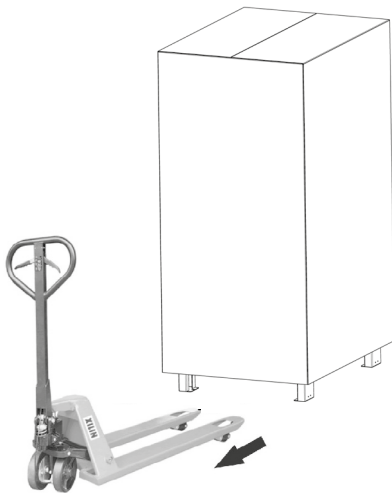
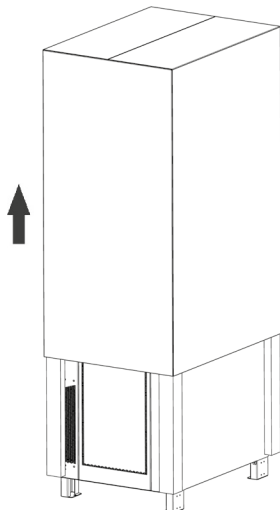

Fig. 29. Example of packaged ADAPT 2 being transported on a pallet truck.
Fig. 30. Example of cardboard packaging being removed.
- By way of examples, Fig. 29 to Fig. 31 contain illustrations of 6-slot cabinets.
- To unpack the unit, cut the strips around the cardboard packaging and remove it upwards as if it were a cover (see Fig. 29 and Fig. 30), or remove it using the necessary tools if it comes in wooden packaging; remove the corner protectors and the plastic cover.